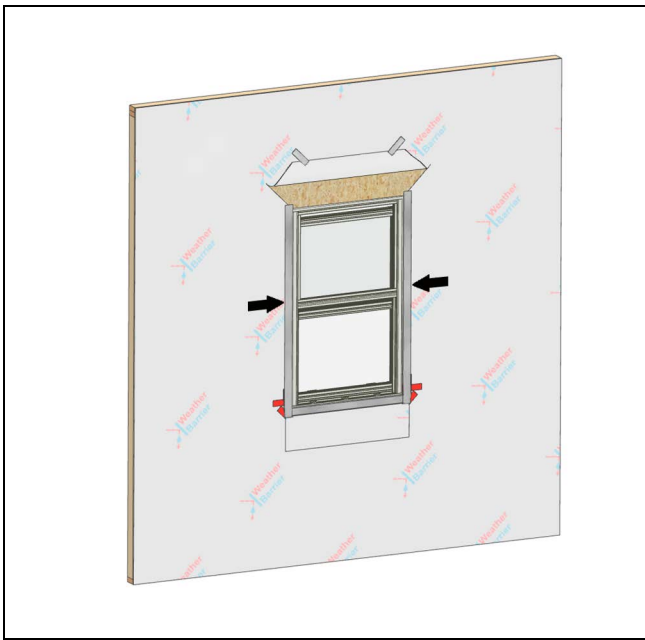

Figure 22
2. Lap vertical strips of adhesive flashing tape onto the unit and out over the WRB. See Figure 22.